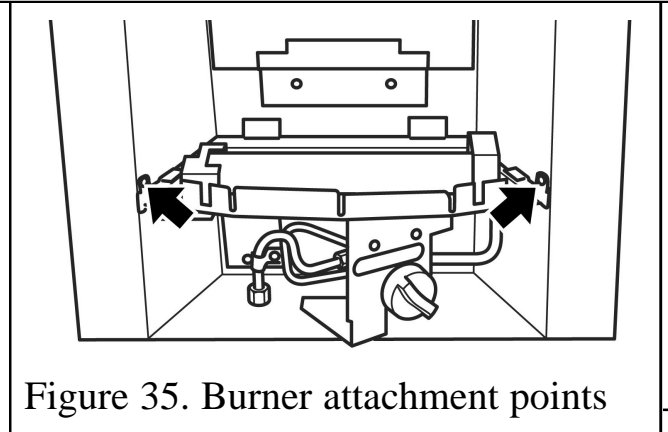

Figure 35. Burner attachment points
4. Detach the burner unit from the hotbox by removing two screws (See figure 35).